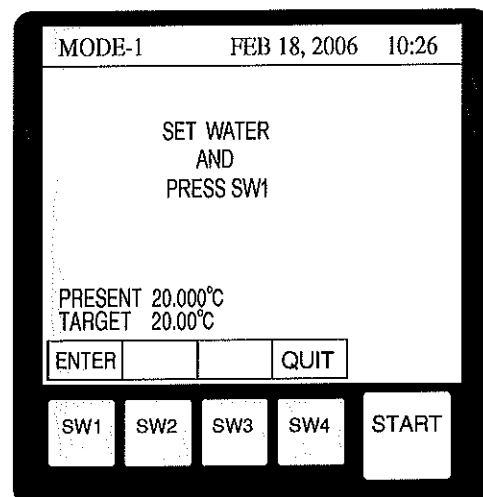

Fig.12-3
- c) The display shown in Fig.12-3 will be displayed when zero setting with air is completed. "SET WATER AND PRESS SW1" is displayed on the display panel, meaning zero setting with air has been completed successfully.